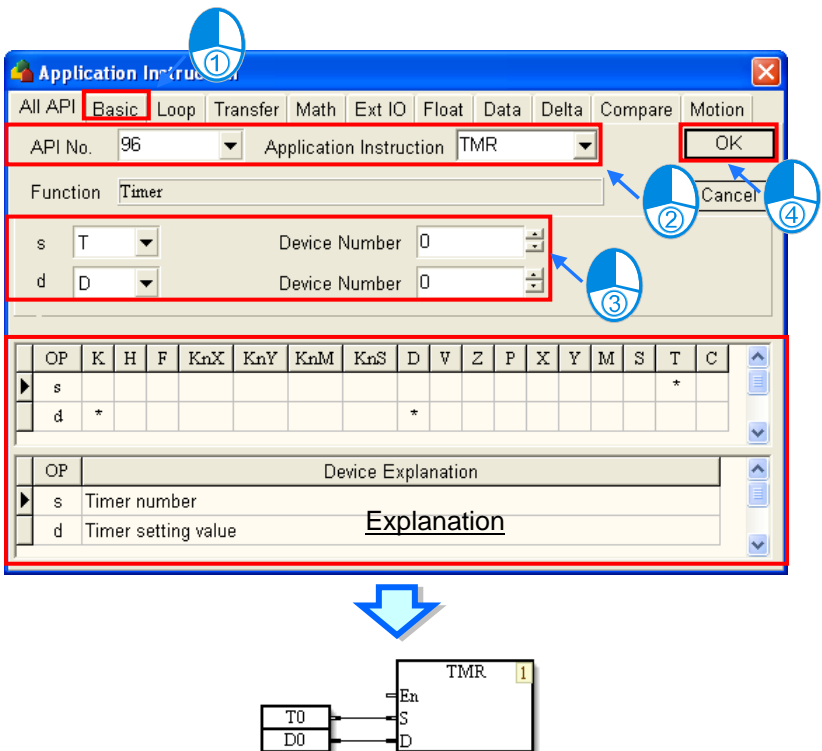

Figure 12-27 Instruction Wizard
- (2) The users have to select an instruction type, select an instruction in the **API No.** drop-down list box or the **Application Instruction** drop-down list box, select devices which are supported according to the explanation at the bottom of the window, click **OK**, move the mouse cursor, and click a position in the program editing area, as shown in figure 12-27.